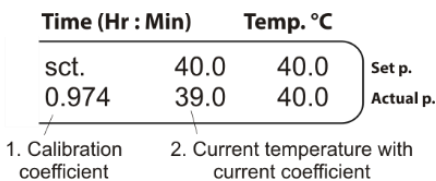

Figure 4. Control panel in calibration and operation mode
6.4.6. Using the **▲** and **▼ Temp or T (°C)** keys, change the calibration coefficient (fig. 4/1) so that the new temperature value (fig. 4/2) corresponds to the independent sensor temperature. In our example, the calibration coefficient will be 0.974.